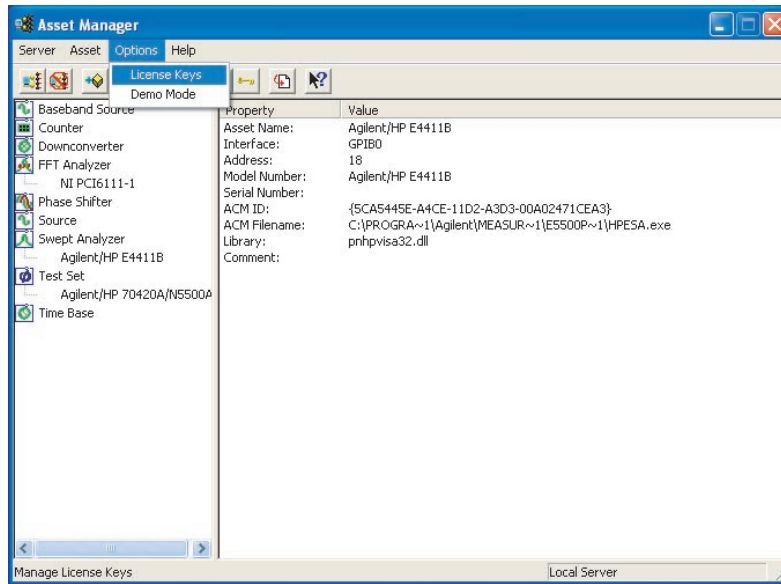

Figure 333 Navigate to license keys
- 3 Click **Options**, and then click **License Keys**. See Figure 333 on page 440.